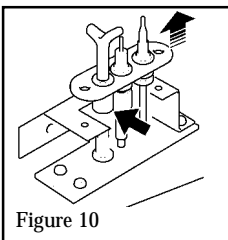

Figure 10
10. Disconnect the pilot pipe. See figure 10.